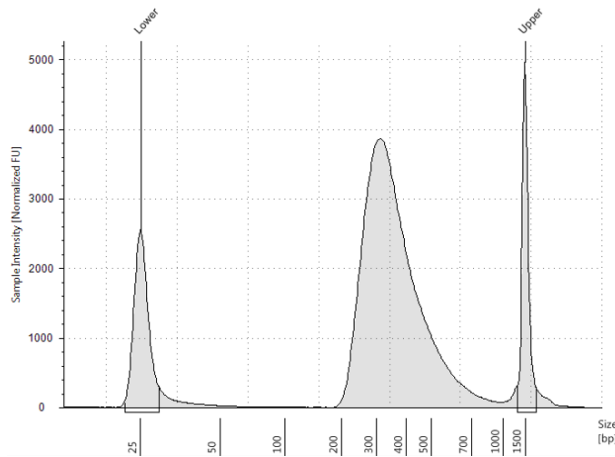
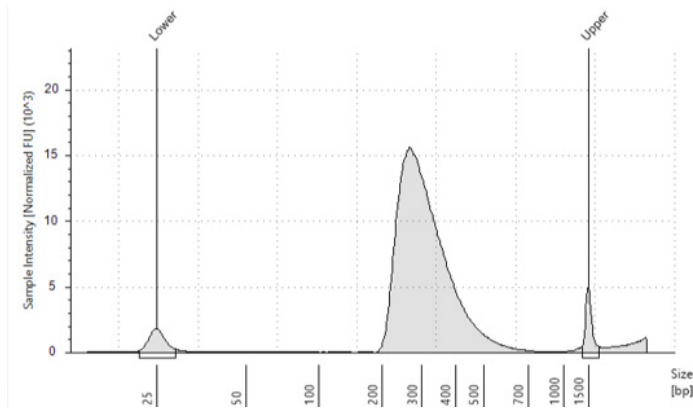
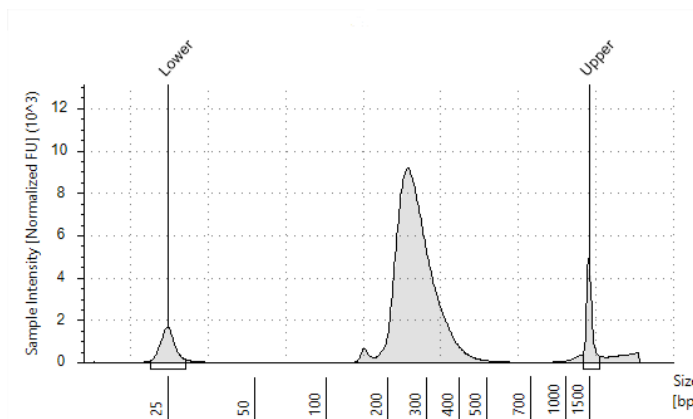

Figure 7 Pre-capture library prepared from a high-quality gDNA sample analyzed using a D1000 ScreenTape assay.
Figure 8 Pre-capture library prepared from a typical FFPE gDNA sample analyzed using a D1000 ScreenTape assay.
Figure 9 Pre-capture library prepared from a low-quality FFPE gDNA sample analyzed using a D1000 ScreenTape assay.
- 15 Verify that the electropherogram shows the expected DNA fragment size peak position (see Table 45 for guidelines). Sample electropherograms are shown in Figure 7 (library prepared from high-quality DNA), Figure 8 (library prepared from medium-quality FFPE DNA), and Figure 9 (library prepared from low-quality FFPE DNA).
The appearance of an additional low molecular weight peak indicates the presence of adaptor-dimers in the library. It is acceptable to proceed to target enrichment with library samples for which adaptor-dimers are observed in the electropherogram at low abundance, similar to that seen in the example electropherogram in **Figure 9**. See Troubleshooting information on **page 162** for additional considerations.
Using manual preparation of the analytical sample plate, you can analyze the DNA samples on Agilent 2100 BioAnalyzer, Agilent 5200 Fragment Analyzer, or Agilent 4200/4150 TapeStation. Electropherograms obtained using one of these other analysis platforms are expected to show fragment size profiles similar to those shown for the Agilent 4200 TapeStation (see Figure 7 through Figure 9). Verify that the electropherogram shows the expected DNA fragment size peak position (see Table 45 for guidelines). Table 46 includes links to assay instruction.